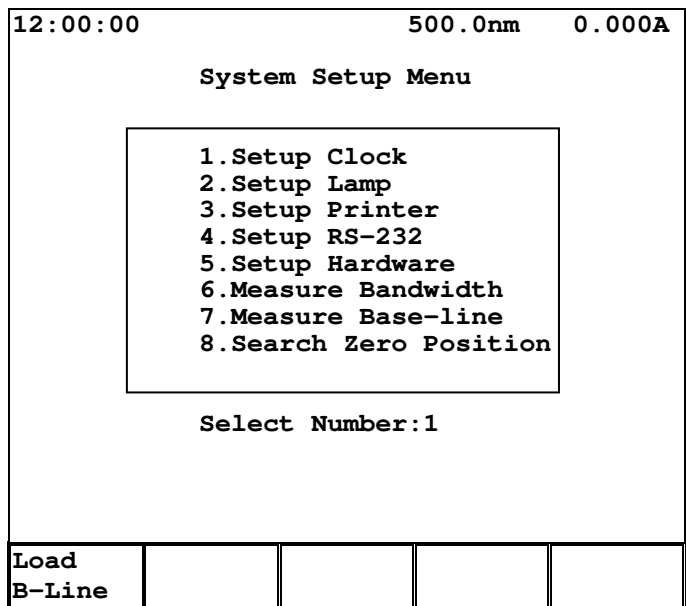

Figure 4.1 System Setup Menu screen
In System Main Menu, selecting item 6 will get into the System Setup Menu screen (Figure 4.1). In this screen, users are allowed to alter several parameters described below. In this screen only one function, Load B-Line, is available.